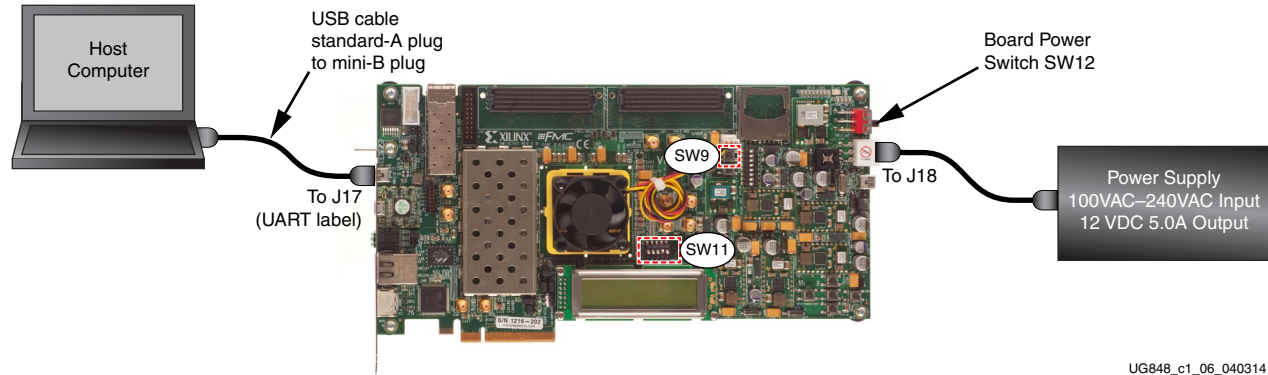
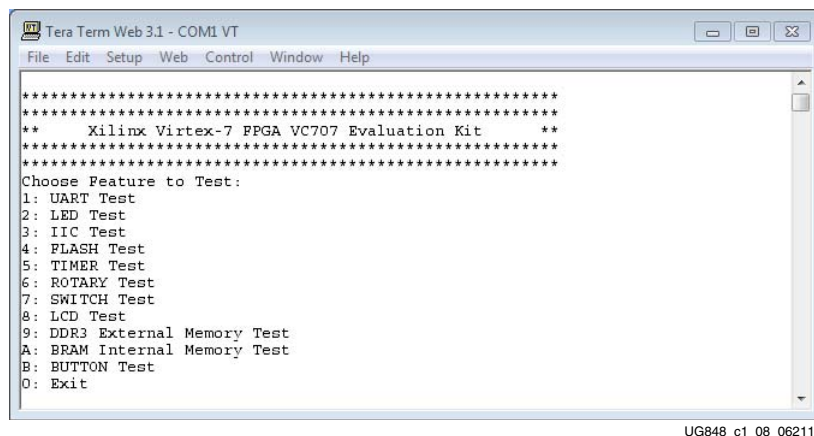

Figure 1-7: BIST Board Connections
Figure 1-9: BIST Menu
2. Connect the VC707 board to the host computer and power supply as shown in Figure 1-7.
5. Press and release the Program button SW9 (Figure 1-7). The BIST bitstream configures the FPGA and then runs BIST. The terminal program displays the BIST menu shown in Figure 1-9.